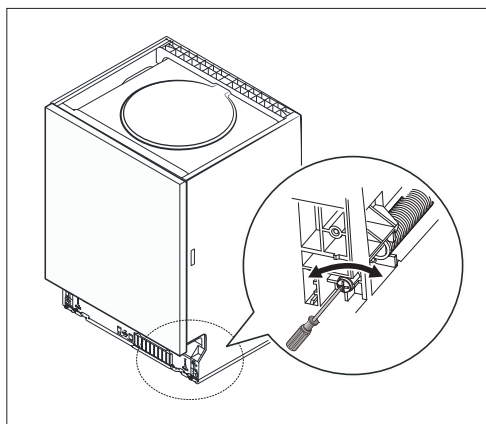

Fig. 17
- You adjust the strength of the springs using the screws located on the bottom part of the front of the dishwasher (Fig. 17).
3. You adjust the strength of the springs (left and right) using the screws located on the bottom part of the front of the dishwasher (Fig. 17). To increase the strength turn clockwise. To decrease the strength turn counter clockwise.